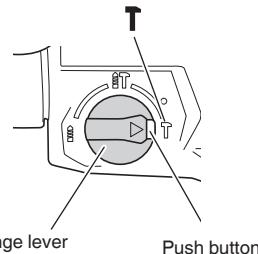

Fig. 11
This rotary hammer can be set to hammering only mode by pressing the push button and turning the change lever to the **T** mark (Fig. 11).
(3) Turn the change lever to **T** mark (Fig. 11).